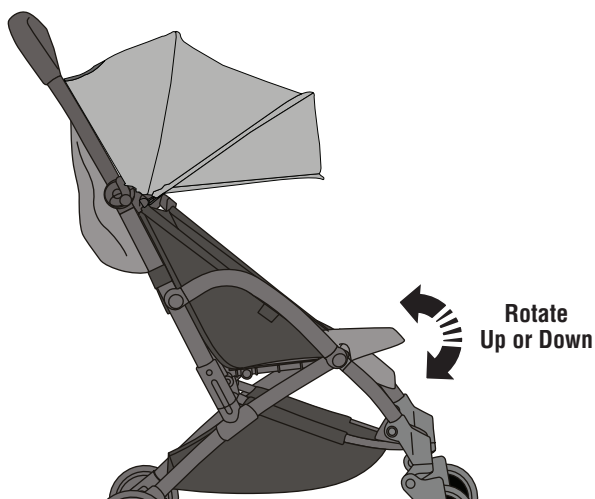

Fig. 7
- **To adjust foot rest:** Pull lever located underneath footrest outward and rotate upward or downward to adjust to its desired position (Fig. 7). There are 2 footrest positions.